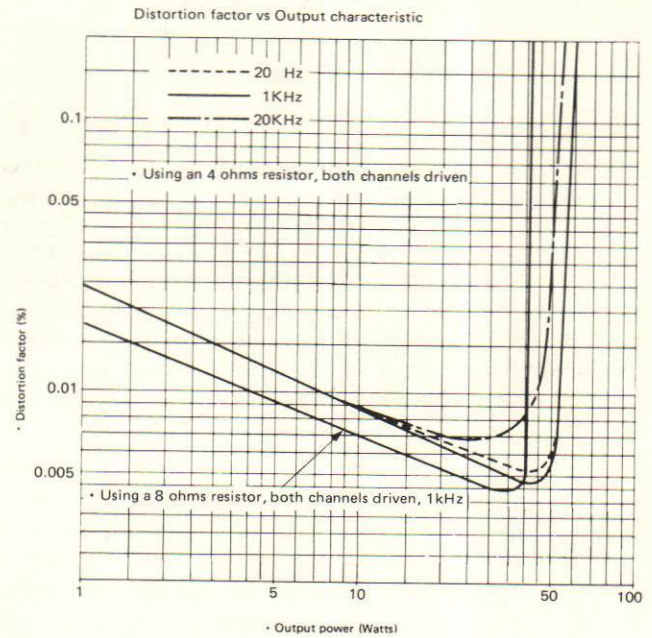

Figure 6-1
■ MAIN AMPLIFIER CIRCUIT (Refer to Figures 6-1 and 6-2)